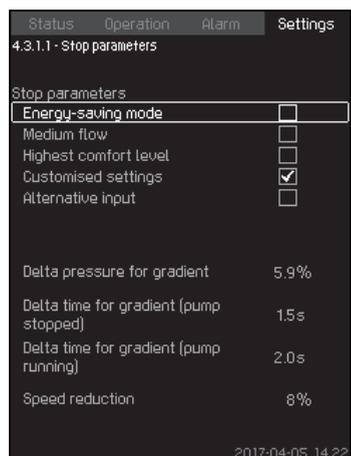

Fig. 72 Customised settings
- 3. Select one of the stop parameters. If you select "Customised settings", you must set the parameters shown in fig. 72. See the examples below.